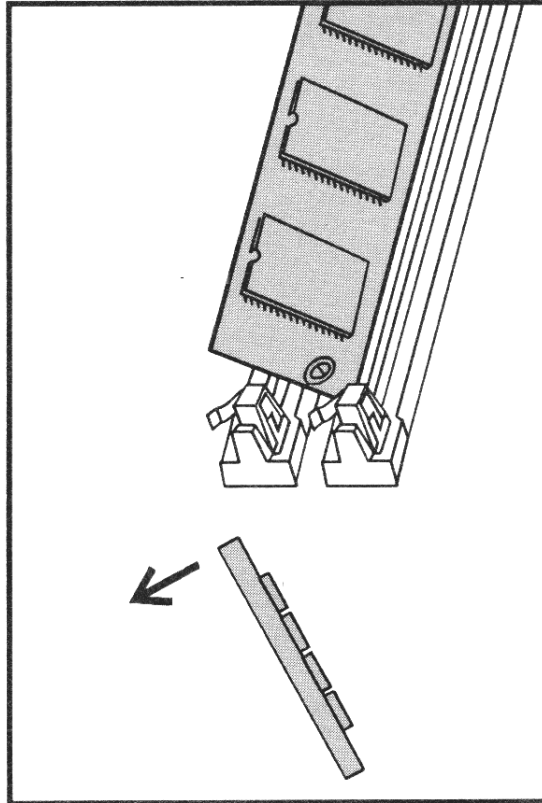

Figure B-1.7. Removing an existing SIMM board.
2. *Gently* push down on the metal locking tabs while rotating the board toward the back of the slot - shown as rotating down and to the left in Figure B-1.7 - until it clears the metal tabs. As it may take two hands to hold down the metal locking tabs on both sides of the board simultaneously, you may want to call for another person to assist you in this process.